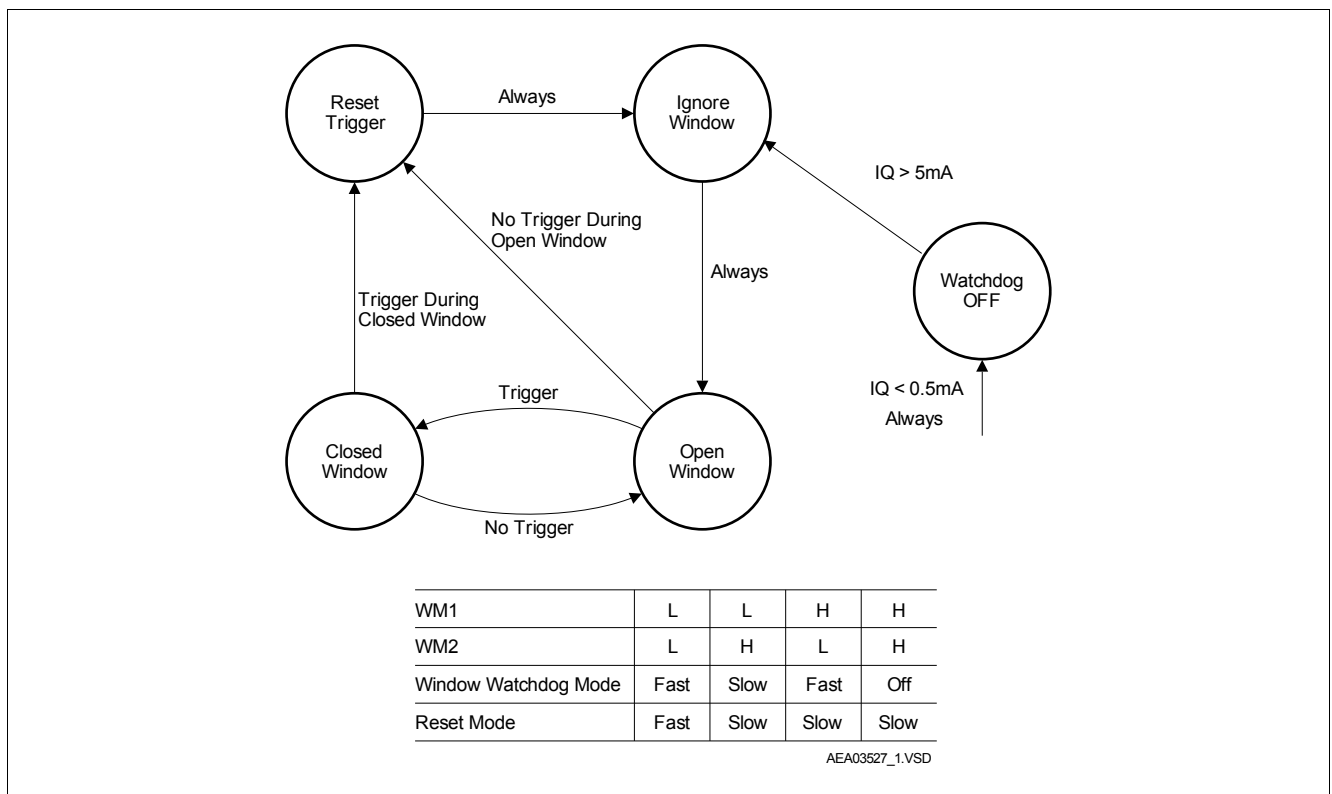

Figure 5 Window Watchdog State Diagram, Watchdog and Reset Modes
The watchdog uses a fraction of the charge pump oscillator's clock signal as timebase. The watchdog timebase can be adjusted using the pins WM1 and WM2 (see **Figure 5**). The watchdog can be turned off setting WM1 and WM2 to high level. The timing values refer to typ. values with WM1 and WM2 connected to GND (fast watchdog and reset timing).
**Figure 5** shows the state diagram of the window watchdog (WWD) and the watchdog and reset mode selection. After power-on, the reset output signal at the RO pin (microcontroller reset) is kept LOW for the reset delay time  $t_{RD}$  of typ. 16 ms. With the LOW to HIGH transition of the signal at RO the device starts the ignore window time  $t_{CW}$  (32 ms). During this window the signal at the WDI pin is ignored. Next the WWD starts the open window which